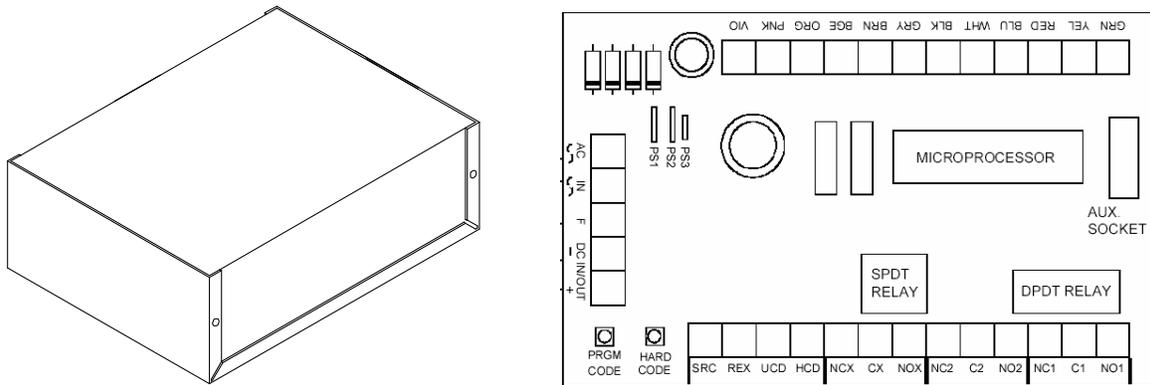

Figure 2 – DK-26 & DK-16 CPU Box & CPU Board
remove the cover of the CPU to access two push buttons on the internal circuit board. You may also need to verify if your unit is the standard Digital Keypad or the Expanded version. The standard version only has a single printed circuit board. The expanded version will have two printed circuit boards. A main board and then a second board mounted perpendicular to the first and connected to it via a ribbon cable. (see Figure 2)
You must first locate the CPU board. On the printed circuit board (see Figure 2) locate the two small buttons located in one corner. Push and hold for one second the push button labeled “Hard Code”. Quickly return to the keypad (as function will time out in thirty seconds). The Yellow LED will be slowly flashing (indicating that you are in the Hard Code program mode. Enter the code that you wish to use. Do not pause between keystrokes. Now wait until the Red LED flashes twice (or possibly green LED if Reverse Light Logic is turned on). Your new Hard Code is now in the Digital Keypad.
If you do not already have a Program Code in your Digital Keypad you must locate the CPU board. On the printed circuit board (see Figure 2) locate the two small buttons located in one corner. Push and hold for one second the push button labeled “PRMG CODE”. Quickly return to the keypad (as the function will time out in thirty seconds). The Yellow LED will be rapidly flashing (indicating that you are
If you do not already have a Program Code in your Digital Keypad or don’t remember the one that you have we highly suggest that you enter one now (see above) before adding or changing a User Code. However, it is not absolutely necessary to have a Program Code in order to make the change to your User Codes. If you do not already have a Program Code in your Digital Keypad and simply wish to add or delete a User Code you must locate the CPU board. On the printed circuit board (see Figure 2) locate the two small buttons located in one corner. Push and hold for one second the push button labeled “PRMG CODE”. Quickly return to the keypad (as the function will time out in thirty seconds). The Yellow LED will be rapidly flashing (indicating that you are in the program mode). With the standard DK-16 or DK-26 you can have up to 59 User Codes. The
**REMOVE AN INDIVIDUAL USER CODE** – If you wish to remove an individual User Code (when an employee leaves the company for example) there are two ways to accomplish this function. You must first get into programming mode. Put your Digital Keypad into the Programming mode by either pushing the PRGM CODE push button on the CPU (see figure 2) or by entering your Program Code (See section on Program Code if you do not have one loaded in your Digital Keypad) on the keypad.
Occasionally we get a request from the customer wishing to clear all codes, so that they can make sure there are no old codes in their system. To remove all user codes, program code, and hard code you will need access to the CPU and the printed circuit board (see Figure 2). Follow the following three steps to remove the codes.
Your Digital Keypad comes from the factory with a door unlock time of 5 seconds. This can be simply altered by the following sequence. Put your Digital Keypad into the Programming mode by either pushing the PRGM CODE push button on the CPU (see figure 2) or by entering your Program Code (See section on Program Code if you do not have one loaded in your Digital Keypad) on the keypad. Once the Yellow LED begins to flash tap in code 9 followed immediately by the number of seconds you would like the door to unlock. For example if you want a 9 second unlock time then tap in code 909. For 15 seconds you would tap in 915. Wait a few seconds and the Red LED (Green if you are using Reverse Light Logic) will flash twice indicating that you have successfully changed your unlock time. The Yellow LED will resume flashing. Simply press the Bell Key (or \* or # on the DK-16) to end the programming mode. Enter one of your User Codes or the Hard Code to verify that the door unlocks for the desired period of time.
From the factory your Digital Keypad is designed to display a Red LED for the entire duration of the door unlock time. Occasionally we hear from the customer that they would prefer the Green LED to be on while the door is unlocked. This function can be achieved as follows. Put your Digital Keypad into the Programming mode by either pushing the PRGM CODE push button on the CPU (see figure 2) or by entering your Program Code (See section on Program Code if you do not have one loaded in your Digital Keypad) on the keypad. Once the Yellow LED begins to flash, tap in code 73. Wait a few seconds for the Green LED to flash twice. The Yellow LED will resume flashing. Simply press the Bell Key (or \* or # on the DK-16) to end the programming mode. Enter one of your User Codes or the Hard Code to verify that when the door unlocks you get the Green LED.
someone's desk (so as not to disturb that individual). To completely turn off the sounder perform the following. Put your Digital Keypad into the Programming mode by either pushing the PRGM CODE push button on the CPU (see figure 2) or by entering your Program Code (See section on Program Code if you do not have one loaded in your Digital Keypad) on the keypad. Once the Yellow LED begins to flash, tap in code 71. Wait a few seconds for the Red LED (Green if using Reverse Light Logic) to flash twice. The Yellow LED will resume flashing. Simply press the Bell Key (or \* or # on the DK-16) to end the programming mode. Press a couple of keys to verify that the sounder has been silenced.
**TO SOUND THE SOUNDER WHILE THE DOOR IS UNLOCKED** – You can alternately select to have the sounder emit a tone during the entire time that the door is unlocked. To implement this option follow the following procedure. Put your Digital Keypad into the Programming mode by either pushing the PRGM CODE push button on the CPU (see figure 2) or by entering your Program Code (See section on Program Code if you do not have one loaded in your Digital Keypad) on the keypad. Once the Yellow LED begins to flash, tap in code 70. Wait a few seconds for the Red LED (Green if using Reverse Light Logic) to flash twice. The Yellow LED will resume flashing. Simply press the Bell Key (or \* or # on the DK-16) to end the programming mode. Enter one of your User Codes or the Hard Code to verify that when the door unlocks you get the tone for entire unlock duration.
**TO RETURN SOUNDER TO FACTORY SETTING** – If you wish to return the sounder to the factory default perform the following sequence. Put your Digital Keypad into the Programming mode by either pushing the PRGM CODE push button on the CPU (see figure 2) or by entering your Program Code (See section on Program Code if you do not have one loaded in your Digital Keypad) on the keypad. Once the Yellow LED begins to flash, tap in code 72. Wait a few seconds for the Red LED (Green if using Reverse Light Logic) to flash twice. The Yellow LED will resume flashing. Simply press the Bell Key (or \* or # on the DK-16) to end the programming mode. Enter one of your User Codes or the Hard Code to verify that the sounder only echoes the keystrokes.